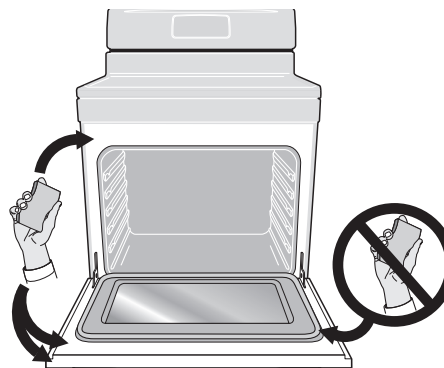

Figure 18: Do not clean the oven door gasket
11. Wipe oven cavity and bottom. Do not clean oven door gasket (See Figure 18).